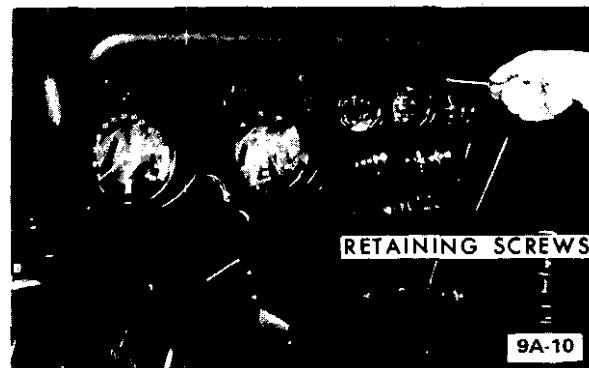

Figure 9A-10 Removing Instrument Cluster detaining Screws
10. Grasp instrument cluster and pull straight back, being careful of wires, etc. See Figure 9A-11.